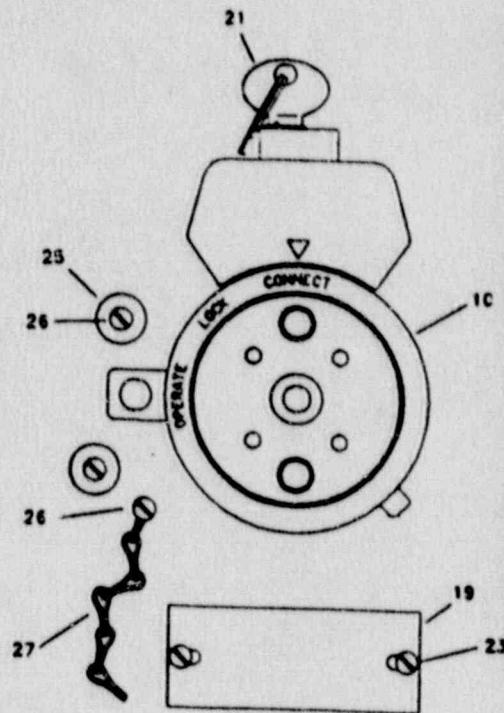

FIGURE 7.3
- (l) A gap of at least 0.53 mm (0.021 in) should be visible between the drive cable collar and the selector ring and it should be impossible to rotate the ring. Do not use excessive force. See Figure 7.3.